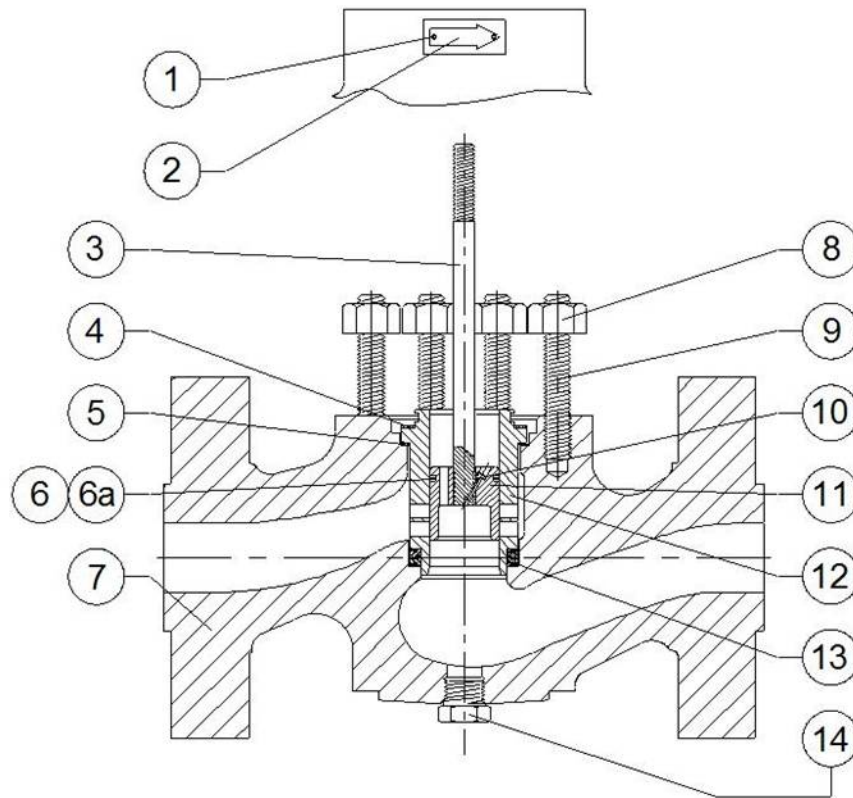
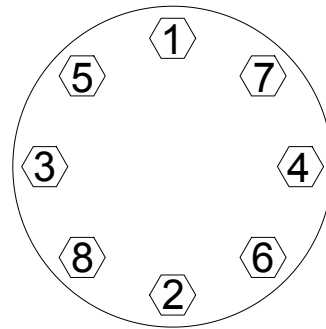

Figure 2: CVS H-900, H-1500 and H-2500 Valve Body Showing Design ED Trim
Figure 5: Typical Bolting Pattern
Body Parts (Figures 2 & 3)
These instructions refer to the replacement of single or double TFE V-Ring, Garlock and Grafoil packing. Key numbers refer to Figures 2, 3 and 4.
4. Remove the hex nuts (Figure 2, Key 8) and lift the bonnet (Figure 4, Key 17) and valve plug and stem assembly from the valve body (Figure 2, Key 7). Set those components on a clean surface and protect the gasket sealing serrations in the bottom of the bonnet. These serrations are essential for a tight seal between the body and bonnet during reassembly.
5. Remove the bonnet gasket (Figure 2 and 3, Key 4).
7. Remove the hex nuts from the valve plug stem (Figure 2, Key 3) and pull the valve plug and stem assembly out of the bonnet. Place this assembly on a protective surface.
- Install a new bonnet gasket (Figures 2 and 3, Key 4) onto the cage (Figures 2 and 3, Key 12).
Note: The valve plug assembly of the ED and ET fit inside the cage with tight tolerances. When installing the valve plug assembly be sure not to damage the piston rings or the seal ring (Figures 2 and 3, Keys 6, 6a, 6b).
- Apply lubricant to the body stud bolts (Figures 2 and 3, Key 9) and the hex nuts (Figures 2 and 3, Key 8). Thread the nuts onto the body stud bolts using good bolting practices. Refer to Table 3 for proper bolt torques and tighten the nuts in a criss-cross pattern (See Figure 5). When the control valve assembly reaches operating temperature, repeat the procedure. Proper tightening of the bonnet nuts ensures a positive sealing of the cage seals and the spring seal.